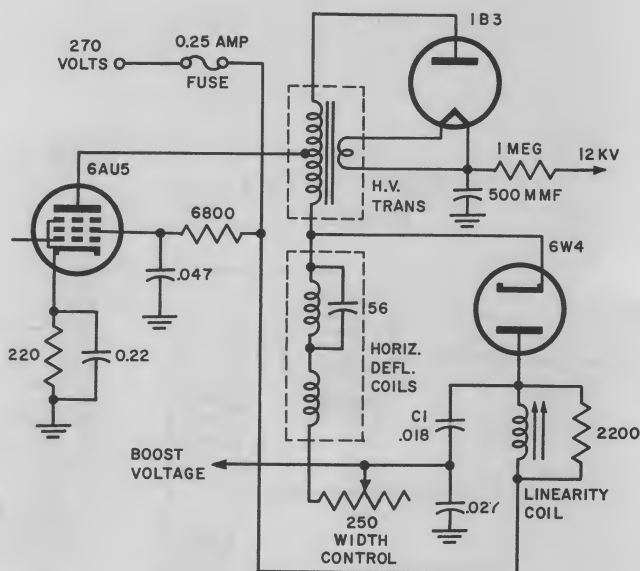

Fig. 3-17. Typical RCA direct-coupled output circuit.
**3. DIRECT-COUPLED, OR DIRECT-DRIVE, OUTPUT.** In the direct-coupled systems (Fig. 3-17) the yoke is placed in series with the transformer, which is usually an air-core type. The coupling which exists is simply the common current path of the two circuits. The basic circuit arrangement is similar to the autotransformer, but impedance values are different and are not interchangeable.